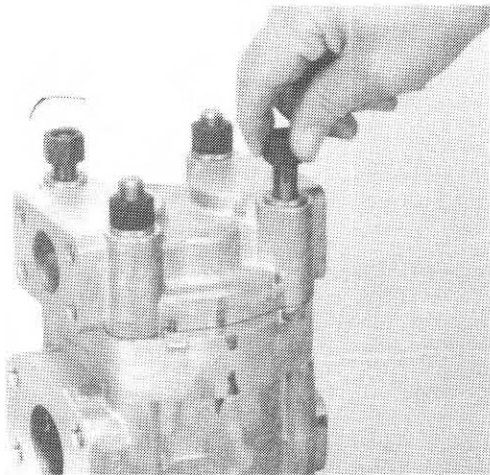

FIG. 33
44. Coat the stud threads with a light coat of oil. Install washers (21) and nuts (22). Torque the nuts to 70 to 75 lb. ft., using a diagonally opposite sequence of tightening. (Figure 33)